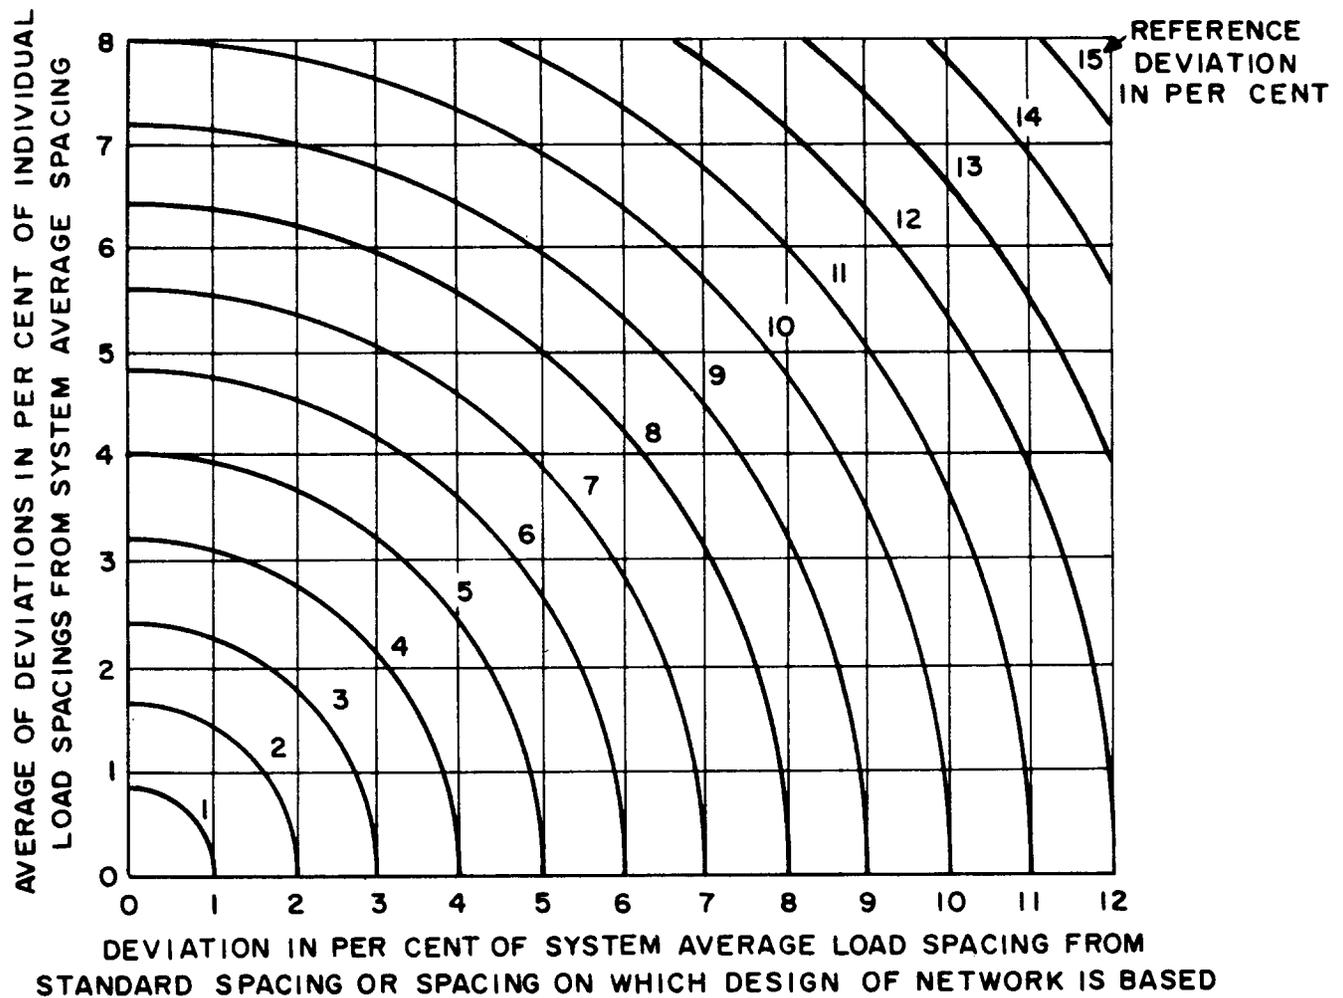

Fig. 1 — Chart for Obtaining Reference Deviation of a Loading System
i. Enter the chart of Fig. 1 with the result of Step d horizontally and the result of Step h vertically. The point thus fixed on the chart determines the reference deviation. In Example A, this point lies about eight tenths of the way from 1% to 2%, so the reference deviation is 1.8%.